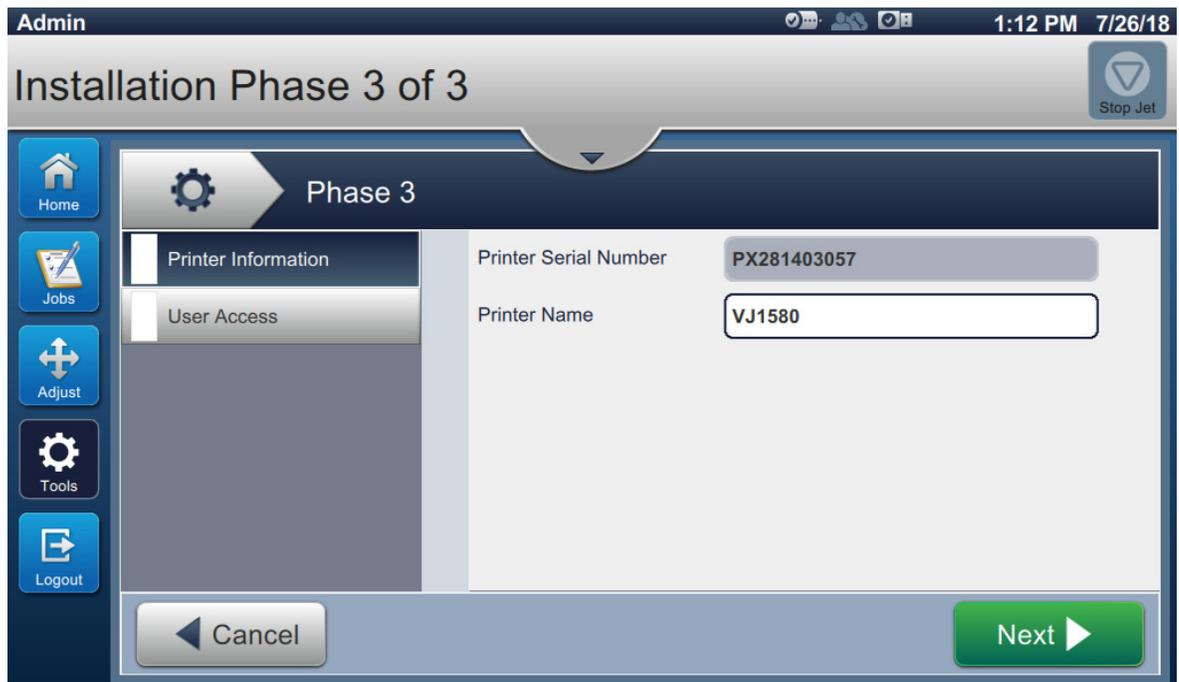

Figure 4-19: Installation-Phase 3
48. After completing the installation phase 2, user interface proceeds to phase 3 as shown in Figure 4-19. Set the required information as shown in Table 4-7.